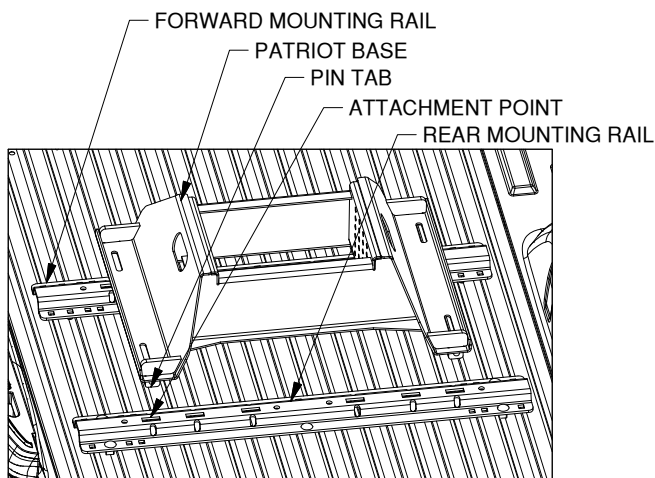

Figure D3: View looking into truck bed from tailgate.
- 3. Position the forward mounting rail.** For this step the base which will be used in the mounting rails is required. Place a mounting rail into the truck bed in front of the rear mounting rail. Place the base over the rail attachment points and carefully lower it until the pin tabs pass through the attachment points on the rear mounting rail. Attach the forward mounting rail to the forward mounting points on the base. The base should rest flat against the top of the rails. See Figure D3. With the base still attached ensure that the forward rail is centered in the truck bed.